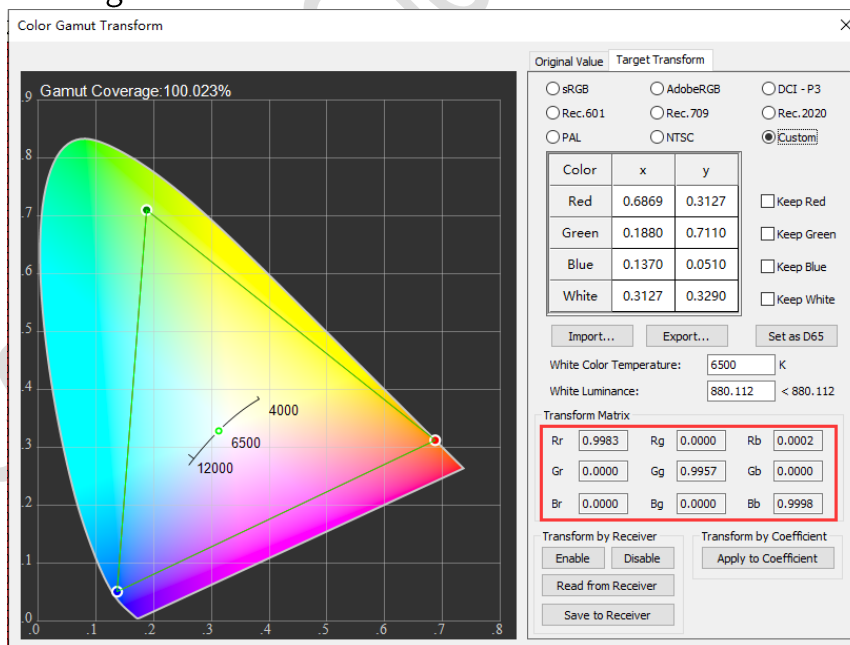

Fig 8.3.3 Generate transform matrix
- Step 3: Click **Approx Value** and select the checkboxes for **Keep Red**, **Keep Green**, **Keep Blue**, **Keep White**, or **Set as D65** based on your actual requirements. This will automatically generate a transform matrix, as shown in Figure 8.3.3.